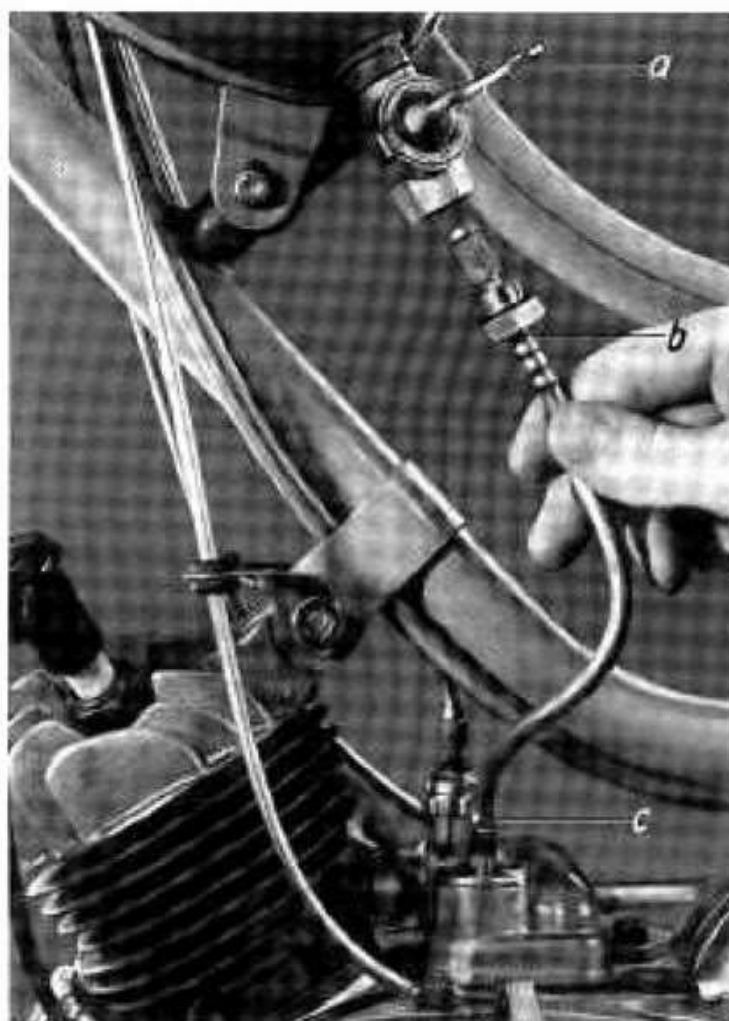

Fig. 5
2.1 Close the fuel tap (a), unscrew the fuel pipe (b) at the top which should be cleaned at the same time, or remove the tube at the carburettor (c). (Fig. 5)